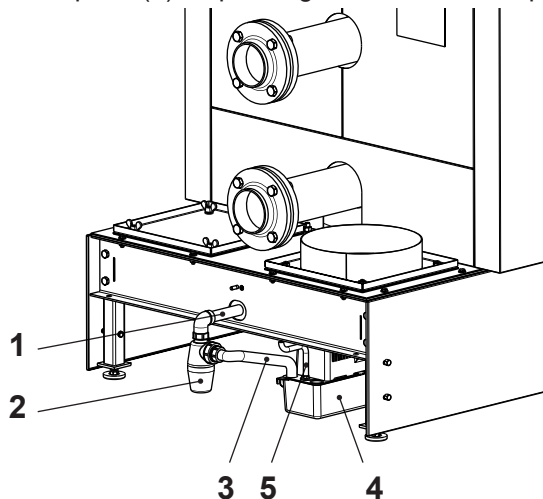

Fig. 34
1. Screw double nipple (1, Fig. 34) and siphon (2) onto the condensate drip tray and tighten securely (connection must be tight!).
5. Fill the siphon (2, Fig. 34) and the neutralisation unit with water.